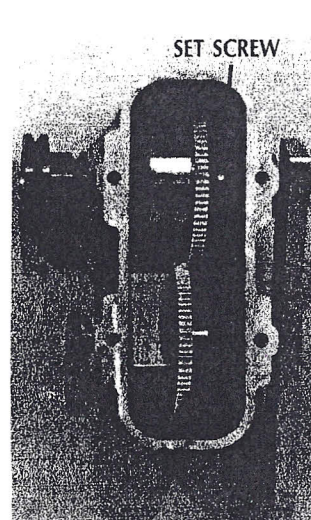

FIG. 19
2. Slide counter weight and attached gear on shaft against the right side (pitman arm side) bearing. Rotate weight and gear on shaft until set screw is straight up (vertical). (fig. 19)